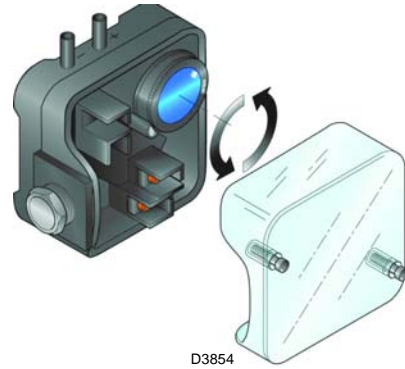

Fig. 23
- Adjust the air pressure switch to the start of the scale (Fig. 23).